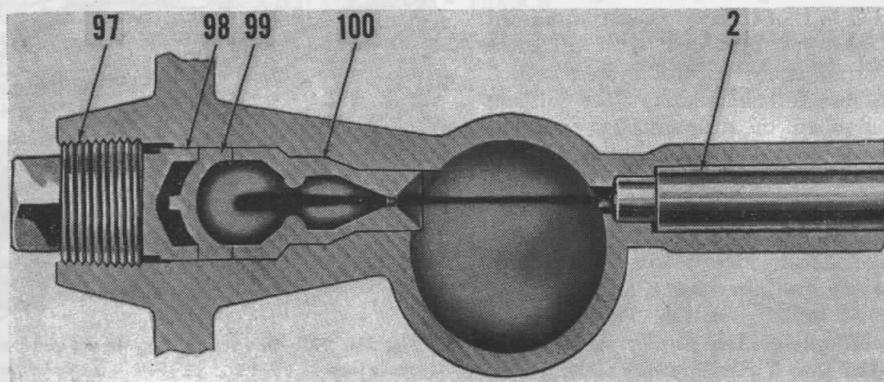

Fig. MH200—Energy cell (pre-combustion chamber) is located in each cylinder and opposite to the nozzle.
**108. R & R AND CLEAN.** When the engine smokes excessively or fuel consumption is above normal the cause may be sometimes traced to an excessive amount of carbon deposit in the energy cells. An emergency job of cleaning the cells Fig. MH200 can be done by removing the cell cap (99) and using a hooked wire to form a scraper.